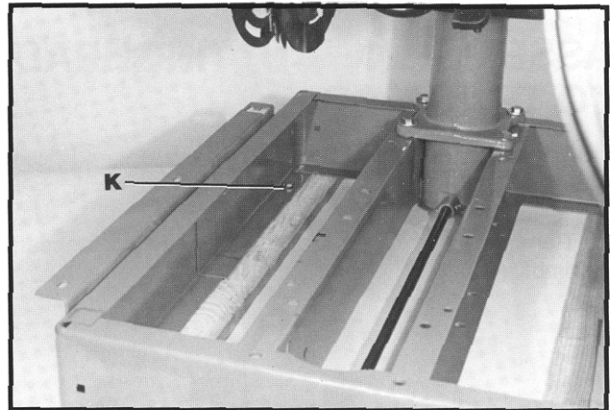

Fig. 8
6. Remove four hex head screws, one of which is shown at (K) Fig. 8, and remove saw from the shipping skid.